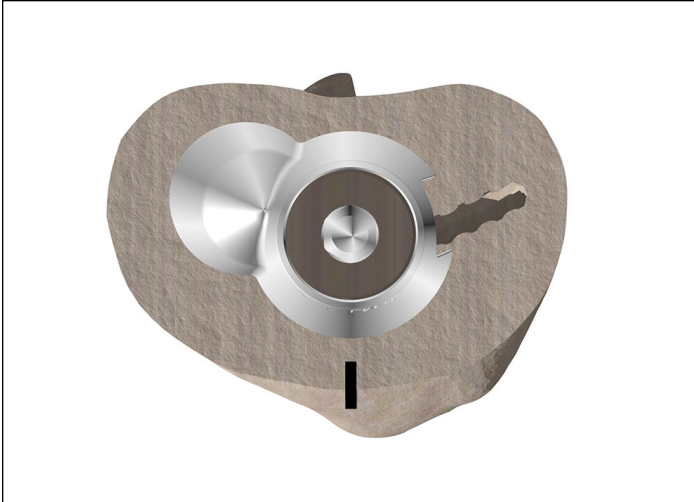

Figure 57
- ▶ **Note:** Invert the Cone Trial over the resected tibial bone and ensure that the trial is centered on the IM Reamer (**Figure 57**). Centering the trial helps to ensure proper positioning.